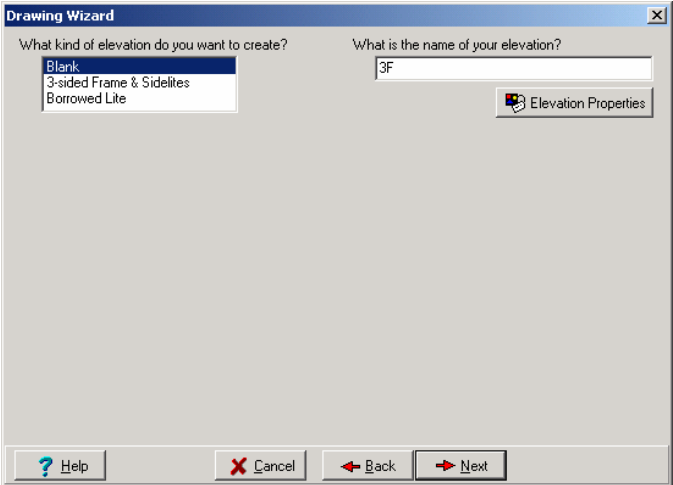

Figure 4
2. Select the **Next** button to navigate to the next page in the wizard, pictured in Figure 4.
3. Let's give the elevation a name. The text box labeled, **“What is the name of your elevation?”**, contains the text: “Untitled”. Replace this text with “3F” like the picture in Figure 4. Click **Next** to navigate to the Anchor wizard page.